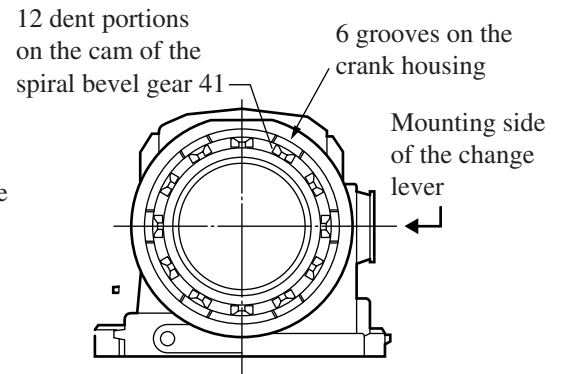

Figure 22
- Turn Spiral bevel gear 41 to match dent portions on the cam with grooves on Crank housing. (see the figure 22.)